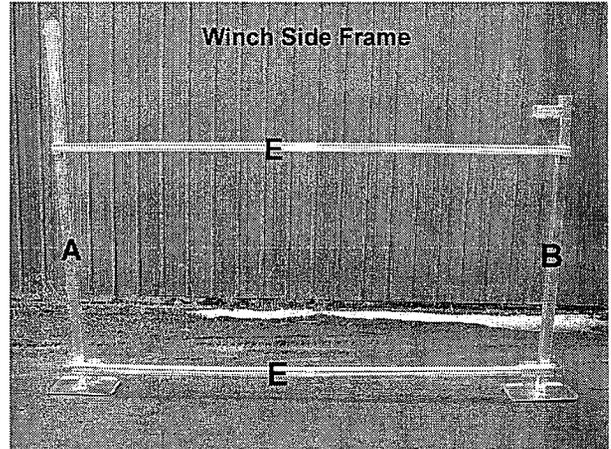
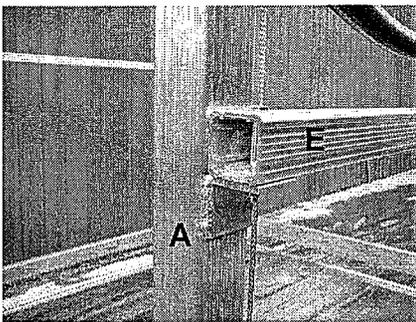

FIG. 5 - KDV1684, KDV2596, KDV25115
FIG. 6 - KDV1684, KDV2596, KDV25115
2. Connect corner posts **A** & **B** using two side frame tubes **E** as shown in FIG. 5. *Install bottom side frame tube first. Use six 3/8" Bolts/Nuts. See FIG. 6 & 7.